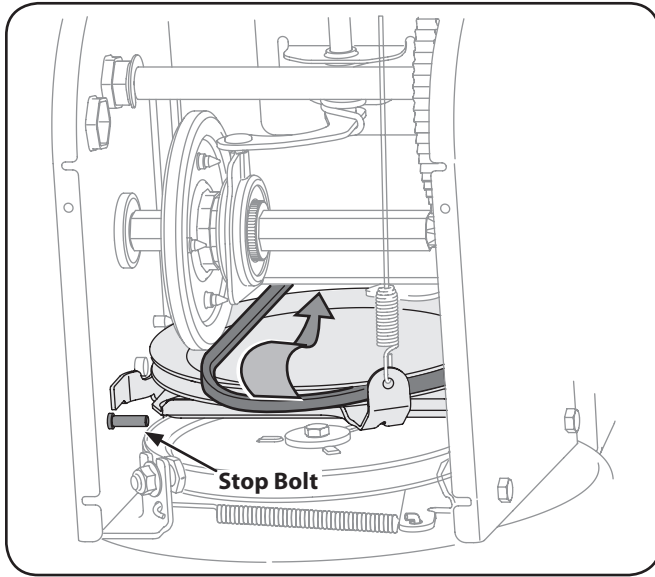

**Figure 7-6**
- Remove the belt as follows. See Figure 7-6: